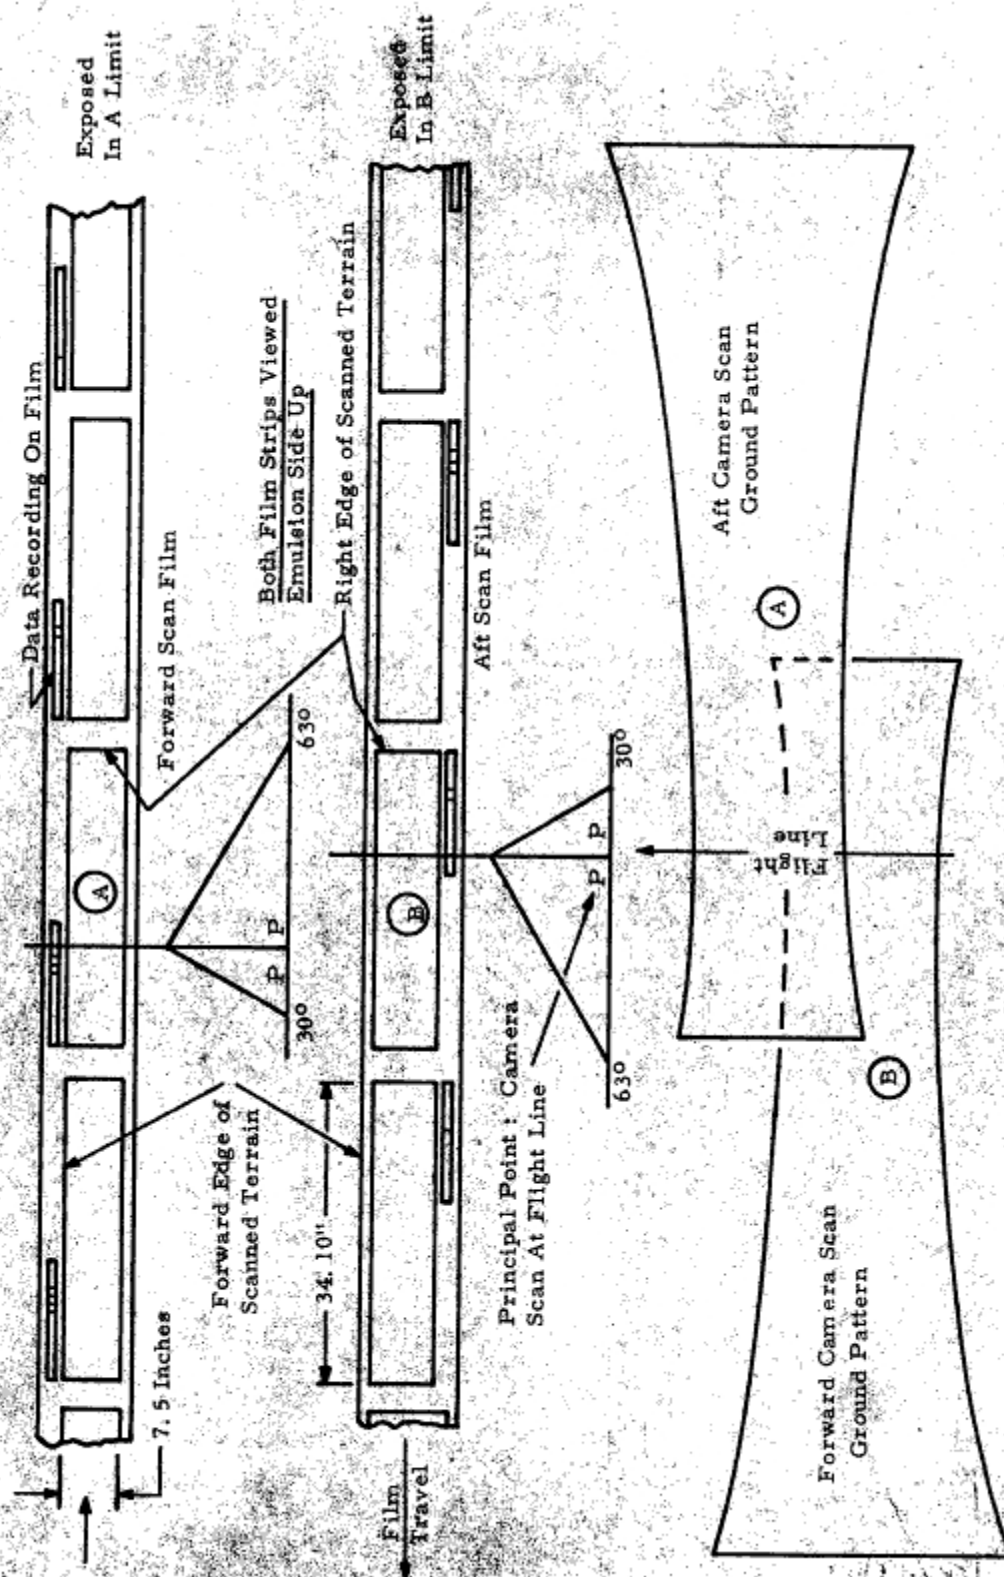

Figure 2-7. Type II Package Format Relationship To Ground Coverage Pattern.
- 2-17. Two typical Type II mission profiles are shown in Figure 2-6. Mission shows continuous operation of the package for a segment of the entire mission. Mission 2 shows intermittent operation of the package for arbitrary portions of the mission. During initial ascent after refuel, turn HEATER switch to ON position and momentarily move the CAMERA switch to START TAPE position and release. This will turn on the camera heaters and the magnetic tape recorder. Specific flight instructions will determine when the CAMERA switch is to be turned to the ON position as shown in Figure 2-7.
- 2-23. Results of the Type II camera systems are panoramic photographs as shown in Figure 2-7. Photographs from the forward camera and corresponding photographs from the aft camera are aligned as shown also in Figure 2-7, along with the associated data information recorded alongside of each frame. Approximately 1320 good photographs with recorded data can be expected from a full film supply of 4200 feet from each camera. Film width is 7.95 inches. Individual frame dimensions are 7.5 inches by 34.100 inches.